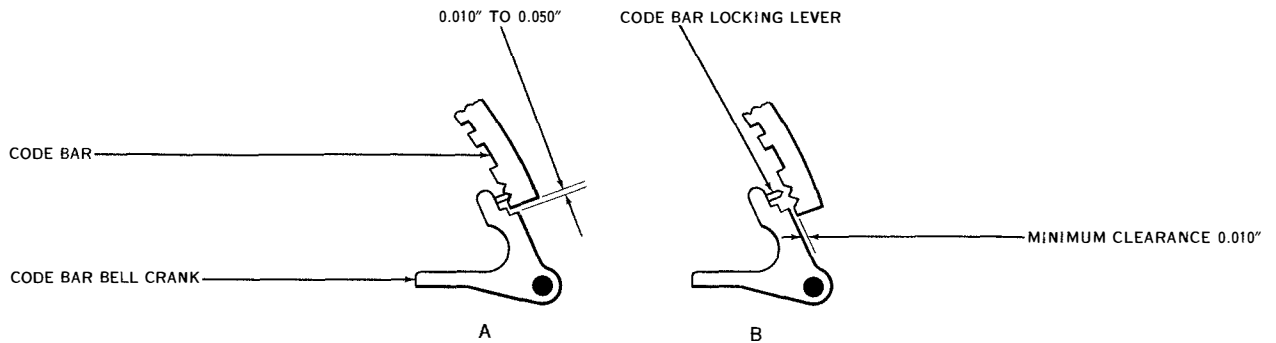

Figure 7-59. Code Bar Bell Crank and Main Bail Adjusting Screw
(60) MAIN BAIL ADJUSTING SCREW (FINAL.) (See figure 7-59.)—There should be a minimum clearance of 0.010 inch between the front edges of the code bars and the adjacent edges of the code bar bell cranks. To check, position the code bars for LETTERS selection, and the main bail cam roller on the high part of its cam. To adjust, reposition the main bail adjusting screw, keeping within the previously specified limits of 0.010 to 0.050 inch between the pull bars and code bars (see figure 7-25).